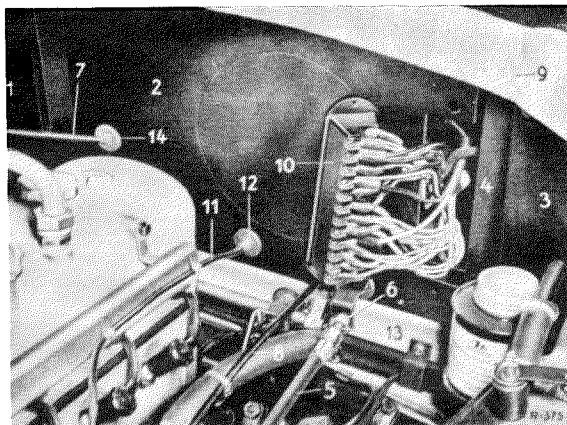

Fig. 82—19/2
2. Remove the cover of the fuse box. Unscrew the two fixing screws for the fuse box and pull out the fuse box (10) forward (Fig. 82—19 2).